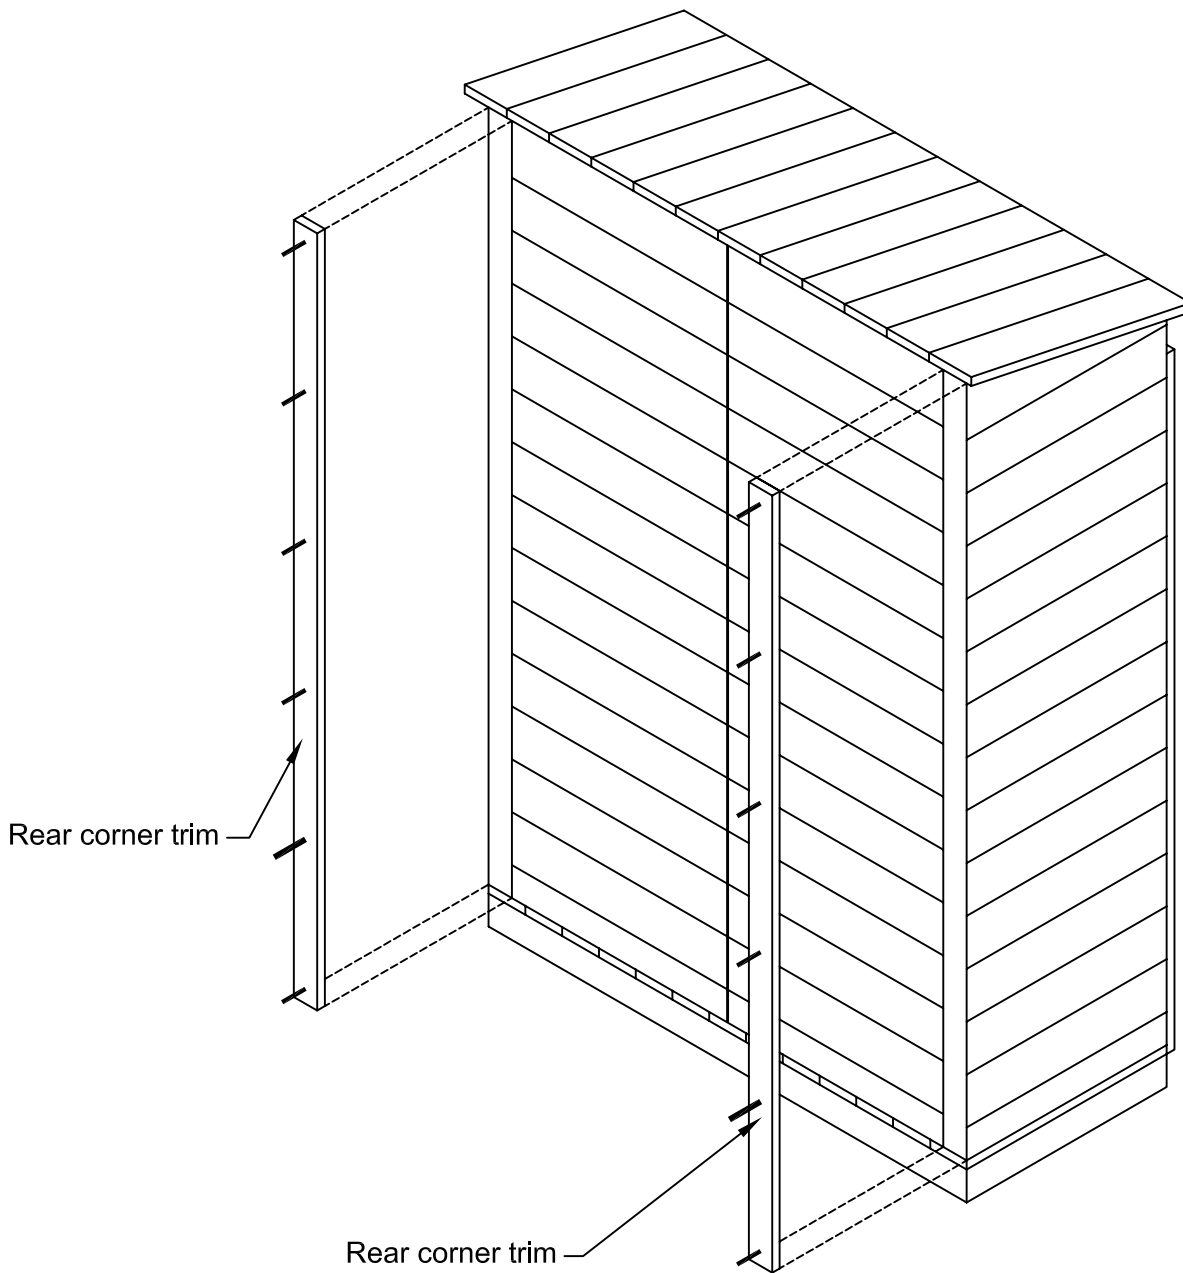

Figure 11
17. Repeat this procedure with the rear trim boards. (Figure 11).